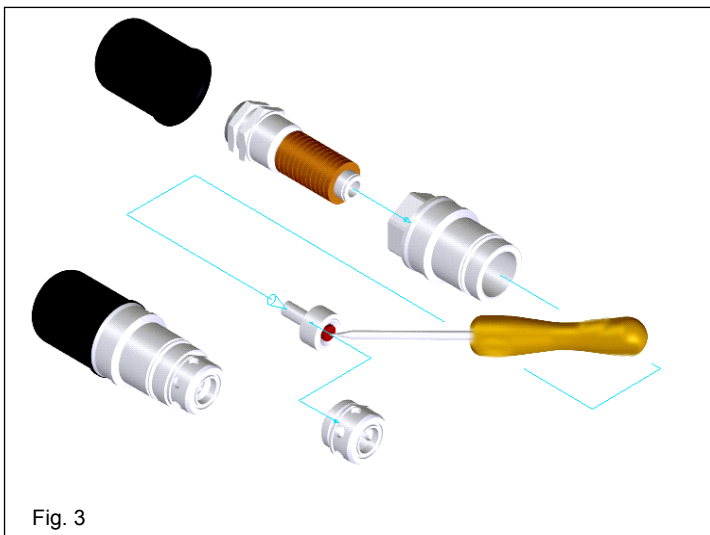

Fig. 3
6.3.10.9 Design with hydraulic combination valve (50)
When installing hydraulic combination valve (50) make sure that the piston moves freely in venting valve (50/E). To check tap face of piston with small screw driver as shown in figure 3. The piston can be pressed in by approx. 2 mm and should then easily return to its original position due to the force of the spring.